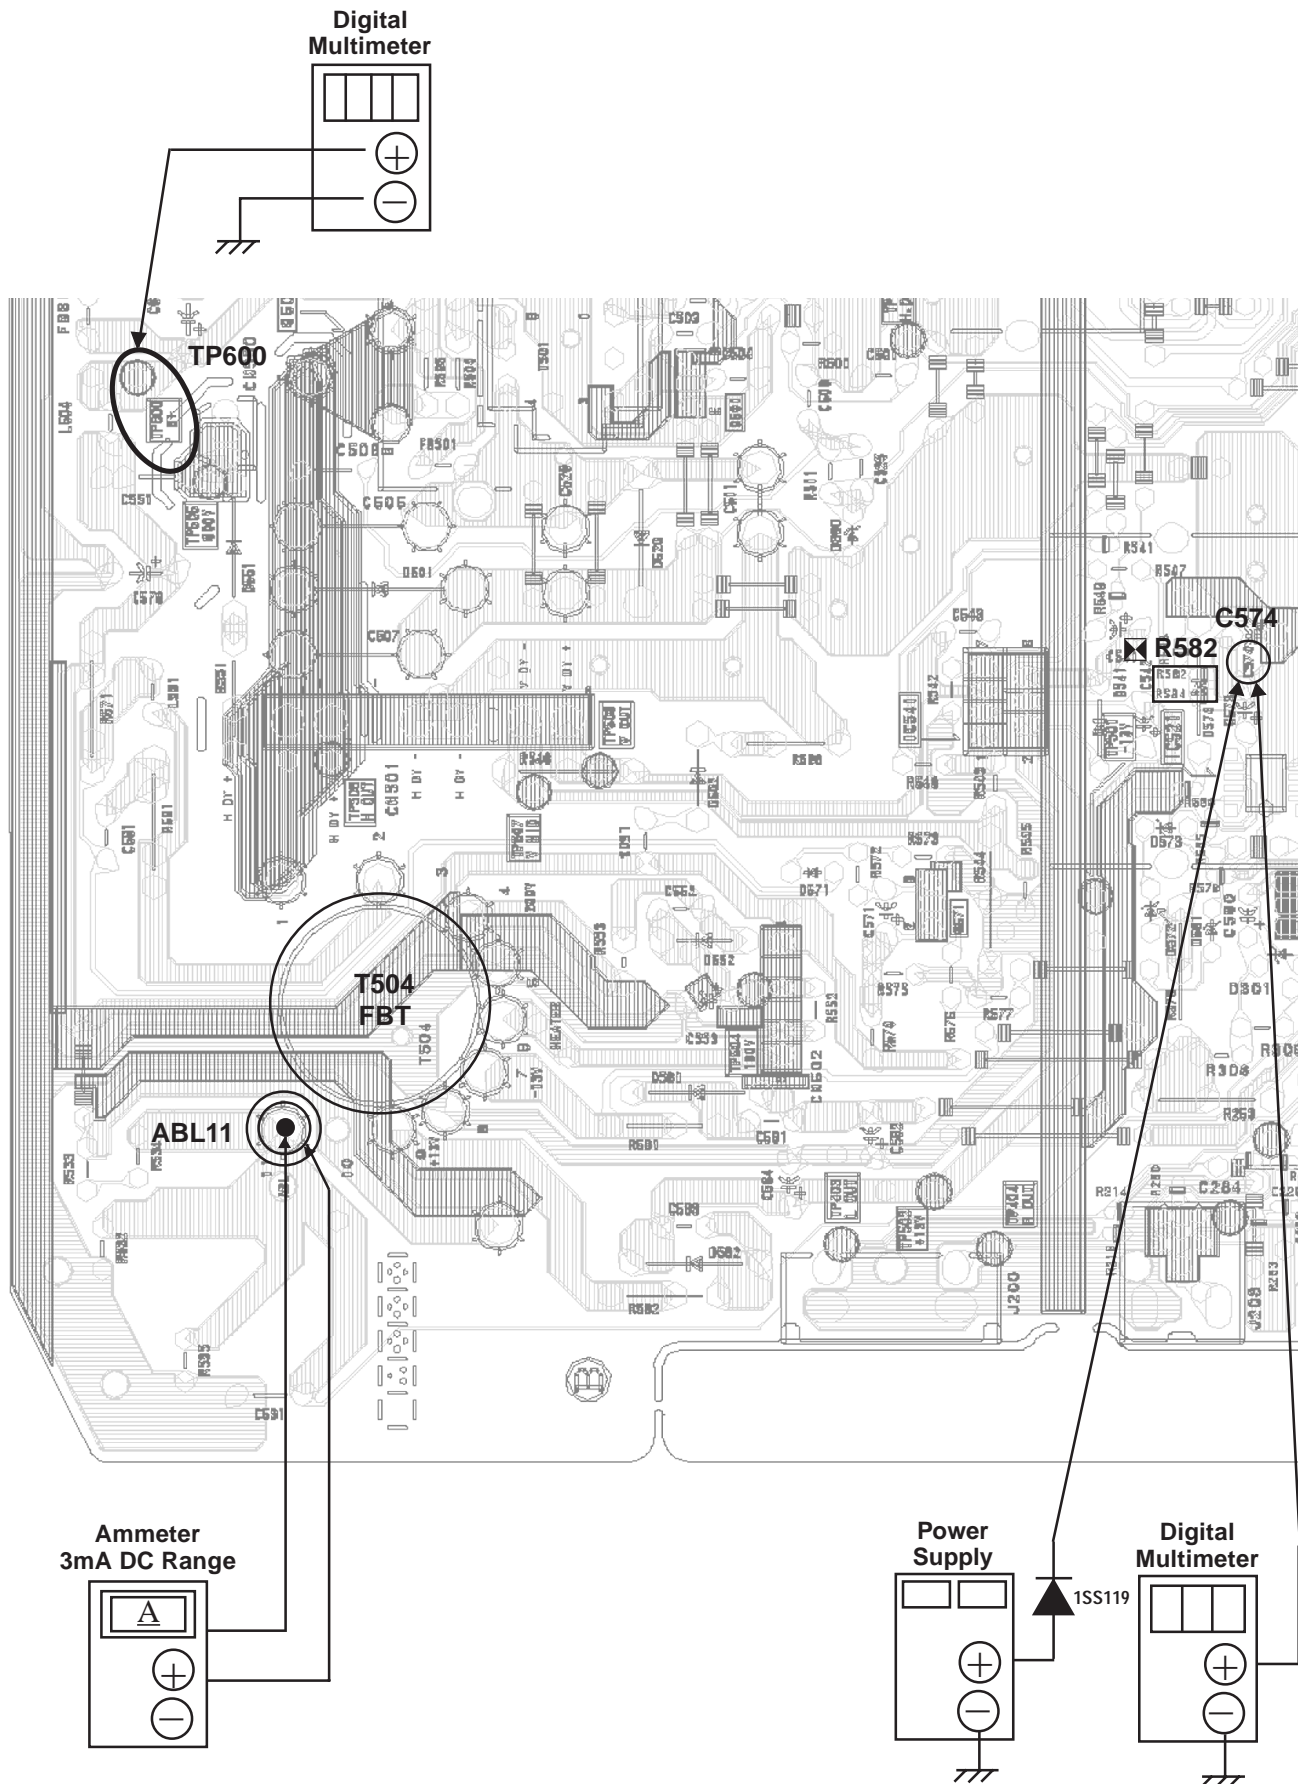

Figure 1
1. Connect the current meter between Pin 11 of the FBT (T504) and the PCB land where Pin 11 would normally attach. (See Figure 1 on the following page.)
4. Connect the digital voltmeter and the DC power supply via diode 1SS119 to C574 (+) and ground (See Figure 1 on the following page).